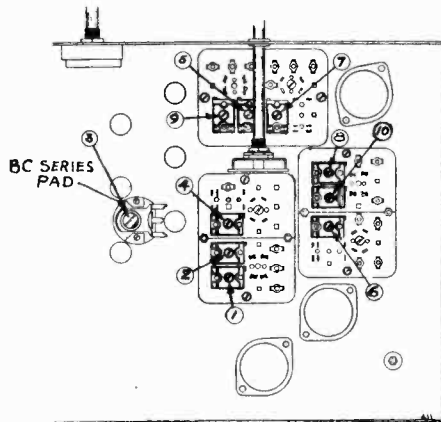

FIG. 3.—BOTTOM VIEW SHOWING TRIMMERS
- (b) Re-set external oscillator to 1400 K.C., move dial pointer to 1400 K.C. and adjust oscillator (adjustment number 4), R.F. (adjustment number 6) and antenna (adjustment number 7) to resonance. See bottom view for location of these adjustments, Fig. 3.